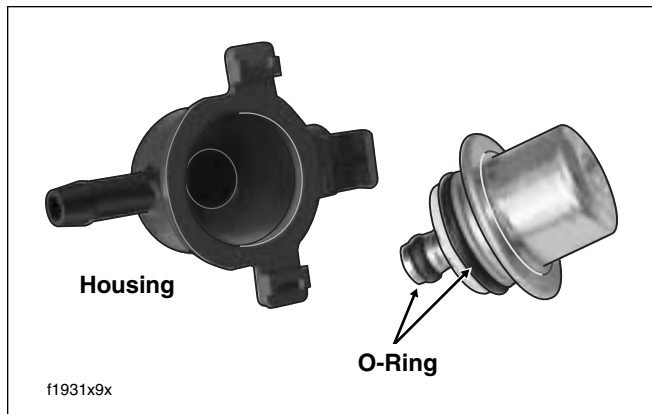

Figure 9-20. Fuel Pressure Regulator Assembly
4. Remove fuel pressure regulator from housing. To overcome the resistance of two O-rings, insert blade of small screwdriver into gap between regulator and housing and gently pry regulator out. See Figure 9-20.
1. Apply a thin coat of clean engine oil to **new** O-rings. Install O-rings in grooves of fuel pressure regulator. See Figure 9-20.